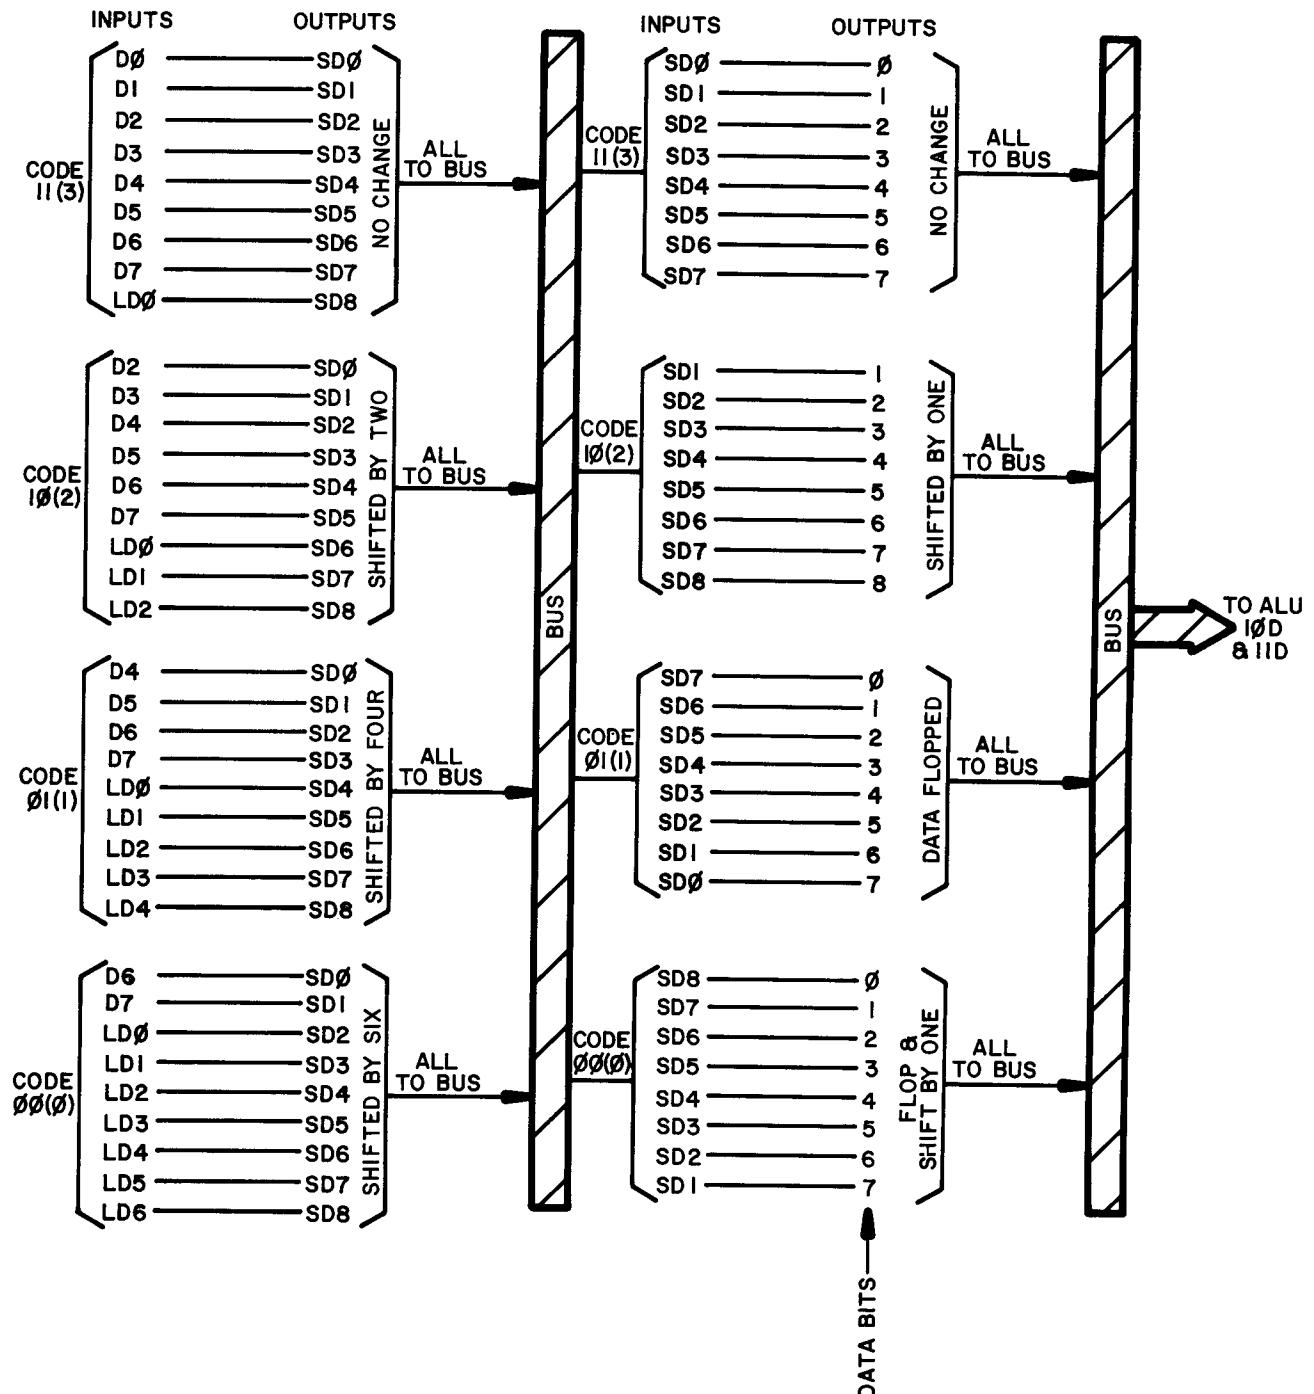

FIGURE 3-7 ACTION DIAGRAM, SHIFTER/FLOPPER CIRCUITS
The operation of chips 7A thru 11A can be understood by assuming that a specific binary code is applied to pins A and B and then listing the input signals that will be switched to the outputs as shown in Figure 3-7. For example, if the A and B pins are both logic one (decimal 3) then all the "3" inputs will be picked up and sent to the outputs as follows: D0, D1, D2, D3, D4, D5, D6, D7 and LDO. LDO means latched data from chip 7C and will be described later. The pattern is orderly and each of the signals will appear on the output lines in an orderly manner. That is, D0 will appear on SD0, D1 will appear on SD1, etc. These conditions are illustrated in Figure 3-7 with binary code 11 (decimal 3) shown at the top left. If the binary code is changed to 10 (decimal 2), the conditions are as shown in the second lower group. Code 01 and 00 appear in the third and fourth (lower) groups, respectively.
The action diagram of Figure 3-7 indicates that a video byte can be unchanged as it passes through chips 7A thru 11A or shifted toward the LSB in steps of 2,4 or 6 (depending on the binary code applied). When passing through chips 8B thru 11B, the video byte can be: (1) unchanged, (2) shifted toward the LSB by 1 bit, (3) flopped so the MSB becomes the LSB and, (4) flopped so the MSB becomes the LSB while simultaneously shifting by one bit toward the MSB.